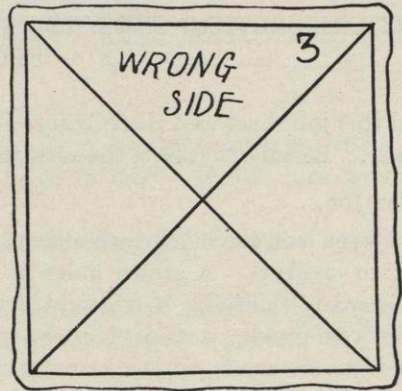

FIG. 3.
- e. With tailor's chalk and a ruler, draw a line on the wrong side of the 18-inch square of material from one corner of material to opposite corner (see Figure 3).
- f. Then draw another line connecting the other two corners. The back of the material should now look like Figure 3. These lines will show where the true bias of the material is.